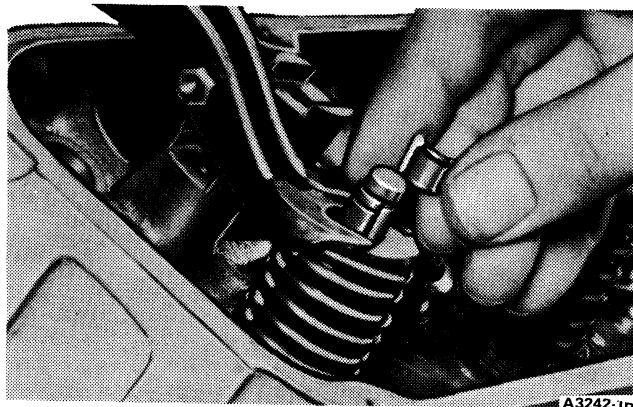

FIG. 46 Compressing Valve Spring
3. Compress the valve springs (Fig. 46). Remove the spring retainer locks and release the spring.